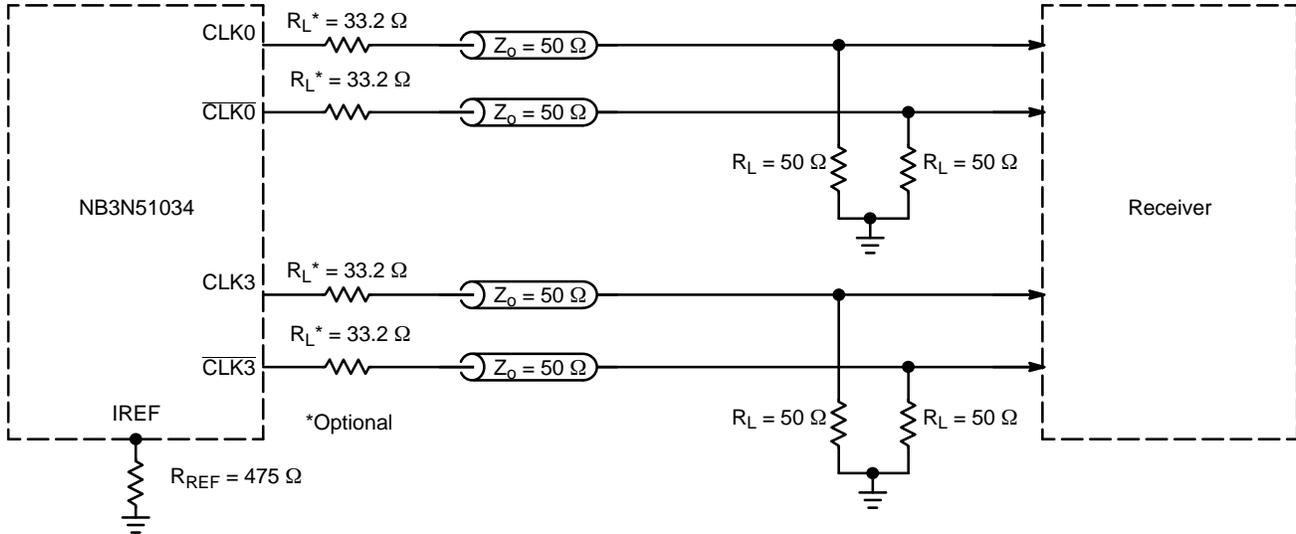
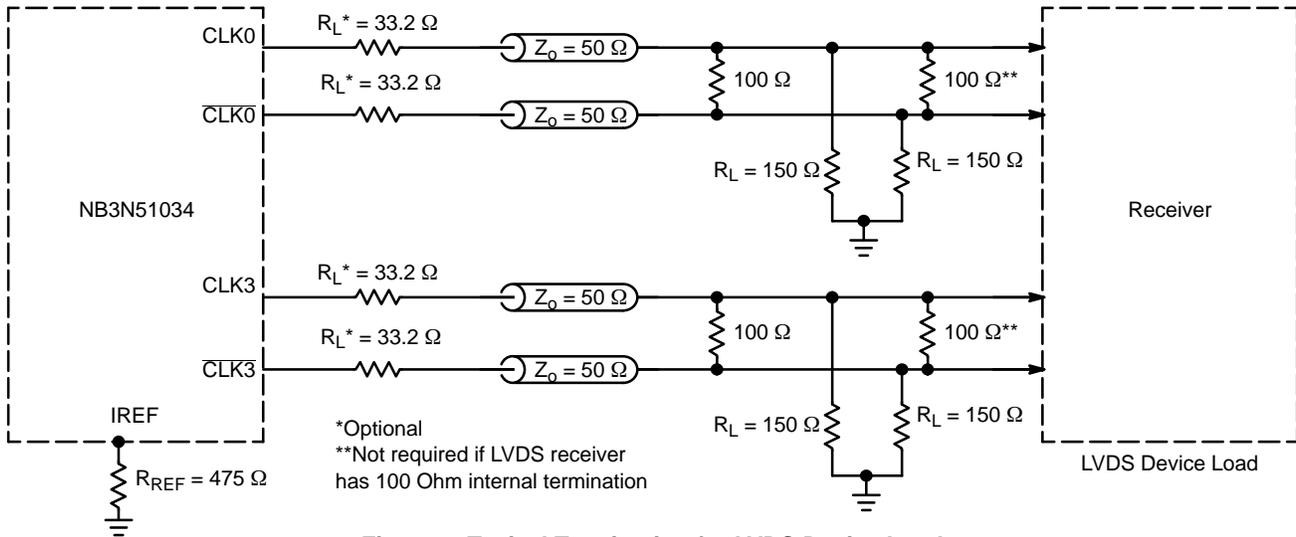

Figure 7. Typical Termination for HCSL Output Driver and Device Evaluation
Figure 8. Typical Termination for LVDS Device Load
- V_{DDXD} and V_{DDODA} power pins must be shorted to power supply voltage V_{DD} and G_{NDXD} and G_{NDODA} ground pins must be shorted to power supply ground GND. Measurement taken with outputs terminated with R_S = 33.2 Ω, R_L = 50 Ω, with test load capacitance of 2 pF and current biasing resistor set at 475 Ω. See Figure 7. Guaranteed by characterization.
12. V_{DDXD} and V_{DDODA} power pins must be shorted to power supply voltage V_{DD} and $GNDXD$ and $GNDODA$ ground pins must be shorted to power supply ground GND . Measurement taken from differential output on single-ended channel terminated with $R_S = 33.2\ \Omega$, $R_L = 50\ \Omega$, with test load capacitance of 2 pF and current biasing resistor set at 475 Ω . See Figure 7. Guaranteed by characterization.
19. VDDXD and VDDODA power pins must be shorted to power supply voltage V_{DD} and GNDXD and GNDODA ground pins must be shorted to power supply ground GND. Measurement taken from differential output on single-ended channel terminated with $R_S = 33.2\ \Omega$, $R_L = 50\ \Omega$, with test load capacitance of 2 pF and current biasing resistor set at 475 Ω . See Figure 7. This parameter is guaranteed by characterization. Not tested in production.
The outputs can be terminated to drive HCSL receiver (see Figure 7) or LVDS receiver (see Figure 8). HCSL output interface requires 49.9 Ω termination resistors to GND for generating the output levels. LVDS output interface may not